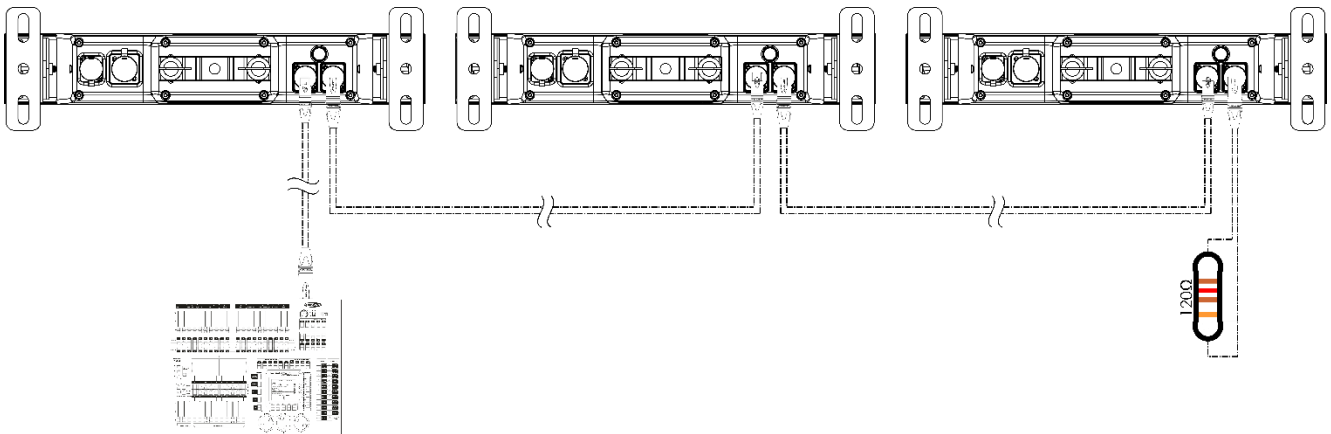

Fig. 05
- 04) Link the units as shown in Fig. 05, Connect a DMX signal cable from the first unit's DMX "out" socket to the second unit's "in" socket. Repeat this process to link the second and third units.